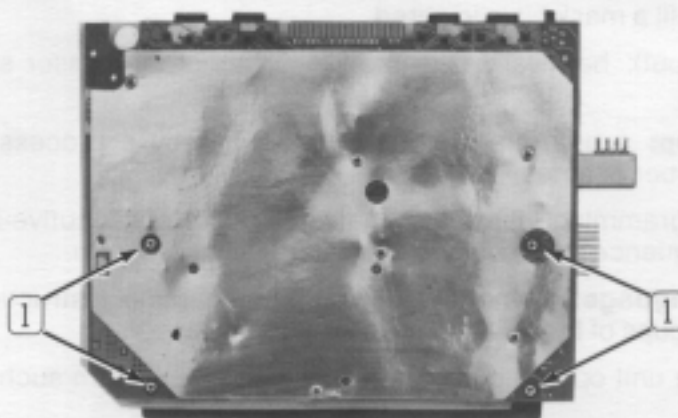

Fig. 3—BOTTOM OF GAME BOARD
6. Turn the board over and remove the four (4) remaining phillip screws that secure the keypad/cassette assembly to the game board (figure 3 item 1).